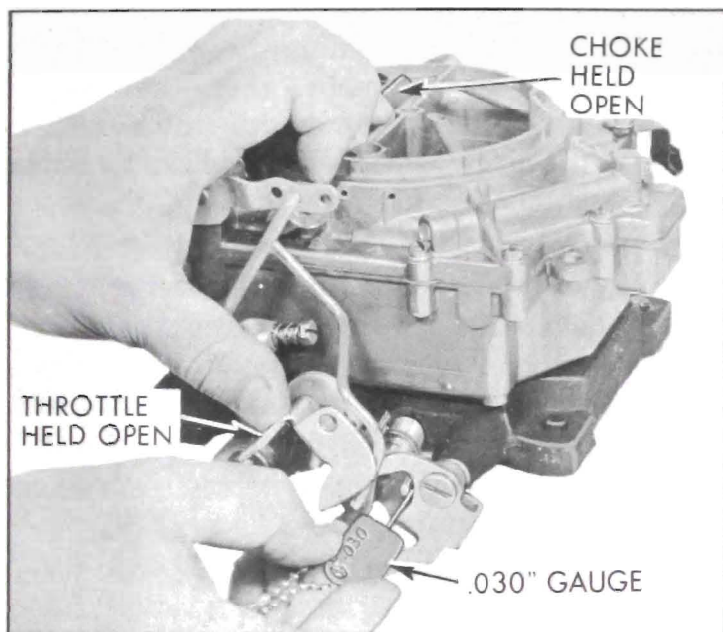

Figure 3-88—Checking Secondary Contour Adjustment
7. Fully open choke valve so that fast idle cam falls to its lowest position. Then open throttle so that secondary lock-out tang follows contour portion of fast idle cam. With choke held wide open, check clearance between lock-out tang and contour portion of cam using .030" Gauge. See figure 3-88.